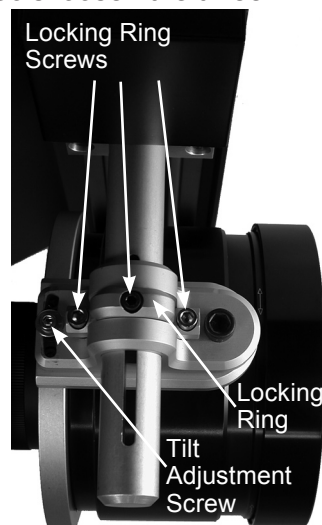

Figure 29
6. Using the appropriate tools loosen the three screws on the Lens Holder Locking Ring while at the same time supporting the Lens on the bottom. Refer to figure 29.